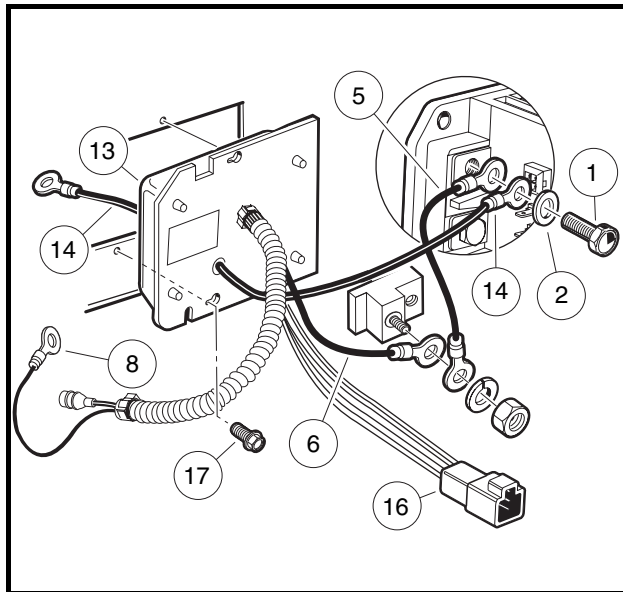
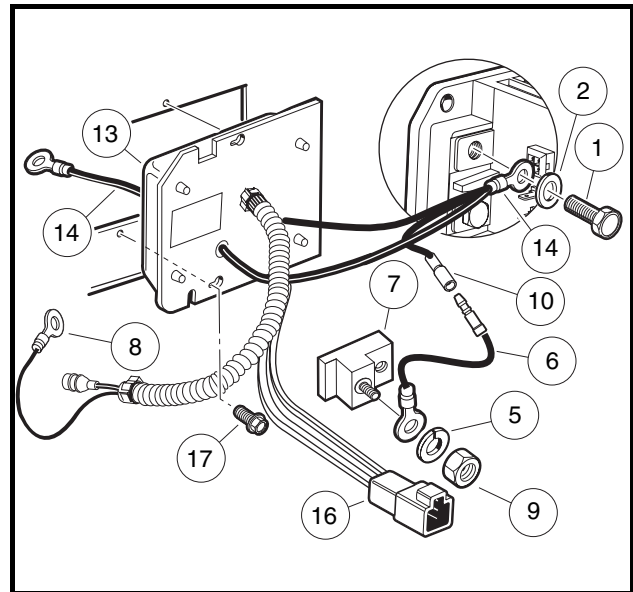
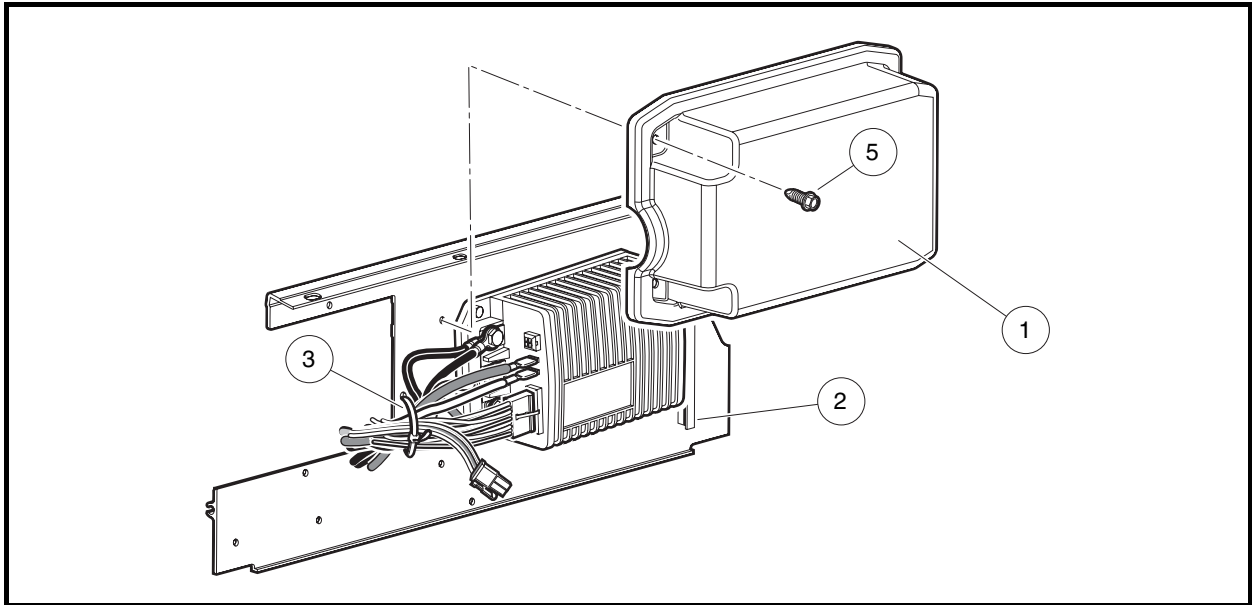

Figure 23-10 Early Onboard Computer
Figure 23-11 Later Onboard Computer
Figure 23-12 Speed Controller Cover
- Remove rear body access panel and unplug the six-pin connector (16) at the OBC (**Figure 23-10**, **Page 23-11**) or (**Figure 23-11**, **Page 23-11**).
- Remove the two screws (5) from the speed controller cover (1) and remove the cover (**Figure 23-12**, **Page 23-13**).
- Remove the wire tie (3) securing the speed controller wires to the mounting plate.
- Remove black 6-gauge wire (14) from the speed controller B- terminal (**Figure 23-10**, **Page 23-11**) or (**Figure 23-11**, **Page 23-11**).
- Early OBC Only:** Remove the black 10-gauge wire (5) from the speed controller B- terminal and black 10-gauge wire (6) from the accessory mounting terminal (**Figure 23-10**, **Page 23-11**).
- Disconnect the black 10-gauge wire (8) at the charger receptacle.
10. Loosen, but do not remove, the two self-tapping screws (17) holding OBC to component mounting plate.
11. Slide OBC towards outside of vehicle and align heads of self-tapping screws (17) with the two holes in the OBC face plate. Pull OBC towards rear of vehicle and remove from component mounting plate.
3. Install the OBC onto the component mounting plate by aligning the two holes on the OBC face plate with two holes on component mounting plate. Slide OBC towards inside of vehicle and align heads of self-tapping screws (17) with smaller part of two holes in OBC face plate (**Figure 23-10, Page 23-11**) or (**Figure 23-11, Page 23-11**). Tighten screws to 60 in-lb (6.7 N·m). **See following NOTE.**
4. Secure the OBC wire harness (consisting of the black 10-gauge wire (8) and the gray wire fuse holder) to the I-beam with wire ties (**Figure 23-10, Page 23-11**) or (**Figure 23-11, Page 23-11**).
5. Connect the black 10-gauge wire (8) to the charger receptacle (**Figure 23-10, Page 23-11**) or (**Figure 23-11, Page 23-11**). Tighten to 23 in-lb (2.6 N·m).
7. **Early OBC Only:** Connect the black 10-gauge wire (6) and the black 10-gauge wire (5) to the accessory mounting terminal. Install the nut on the accessory terminal and tighten to 9 ft-lb (12.2 N·m) (**Figure 23-10, Page 23-11**).
8. Connect the black 6-gauge wire (14) (and black 10-gauge wire (5), if early OBC) to the speed controller B– terminal with the washer (2) and bolt (1) and tighten to 9 ft-lb (12.2 N·m) (**Figure 23-10, Page 23-11**) or (**Figure 23-11, Page 23-11**).
9. Plug the six-pin connector (16) from the OBC into the vehicle wire harness.
10. Install a wire tie (3) to tightly secure the speed controller wires to the component mounting plate (**Figure 23-12, Page 23-13**).
11. Place the edge of the speed controller cover (1) into the slot (2). Press the controller cover onto the component mounting plate over the speed controller and install the two screws (5) (**Figure 23-12, Page 23-13**). Tighten the screws (5) to 60 in-lb (6.8 N·m). **See following NOTE.**
3. Remove the two screws (5) from the speed controller cover (1) and remove the cover (**Figure 23-12, Page 23-13**).
3. Place the edge of the speed controller cover (1) into the slot (2). Press the controller cover onto the component mounting plate over the speed controller and install the two screws (5) (**Figure 23-12, Page 23-13**). Tighten the screws (5) to 60 in-lb (6.8 N·m). **See following NOTE.**